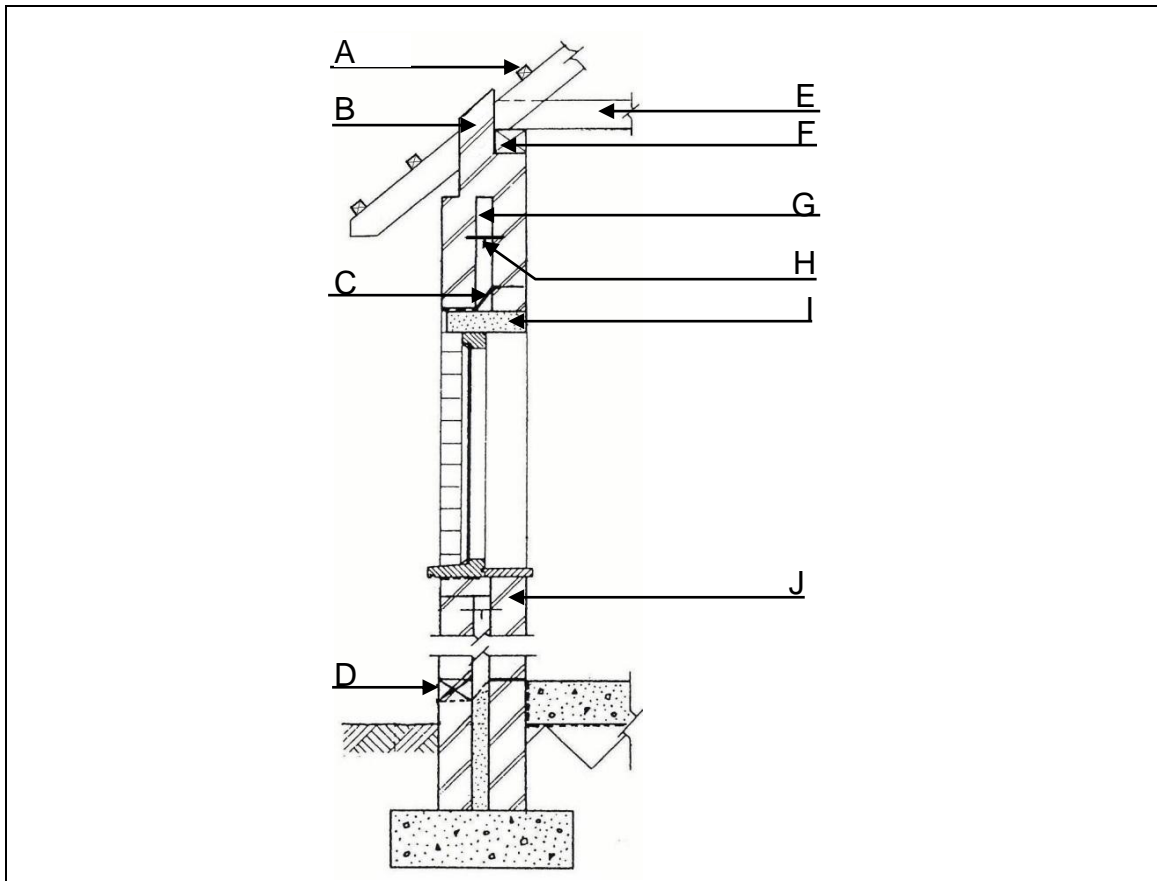

FIGURE 6.2
6.2 Answer the following questions with regard to the structure in FIGURE 6.2.